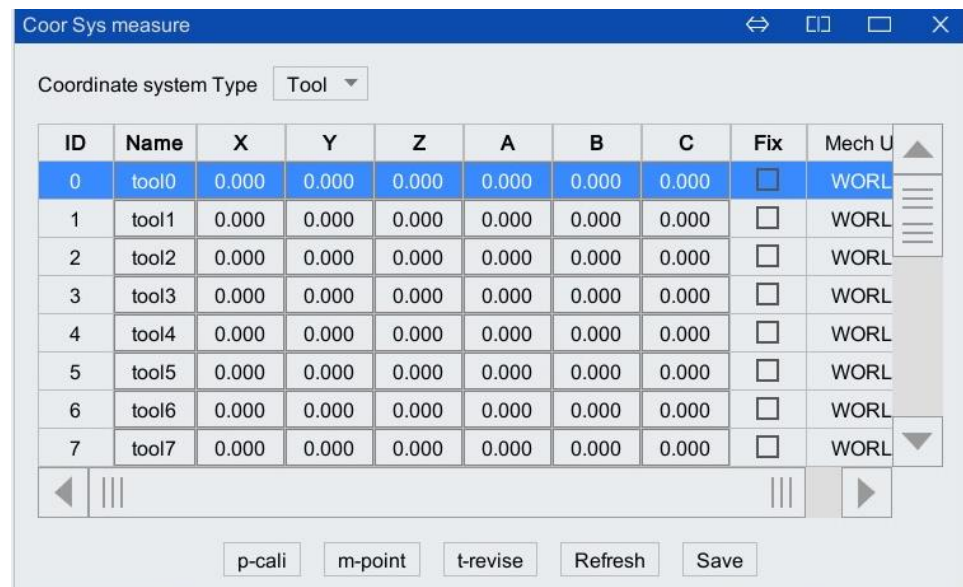

Figure 4-2 Select the row containing the tool coordinate system
Step2. Select "Tool" in [Coordinate System Type], click to select the row of the tool coordinate system to be calibrated, as shown in Figure 4-2.